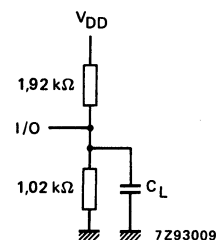

Fig. 5 Load for a.c. test conditions ($V_{DD} = 3\text{ V} \pm 0,5\text{ V}$).
$V_{DD} = 3\text{ V} \pm 0,5\text{ V}$; $V_{SS} = 0\text{ V}$; $T_{amb} = -25\text{ to } +70^{\circ}\text{C}$; measured in Fig. 5, $C_L = 100\text{ pF}$; unless otherwise specified
A.C. TEST CONDITIONS (see Fig. 5)